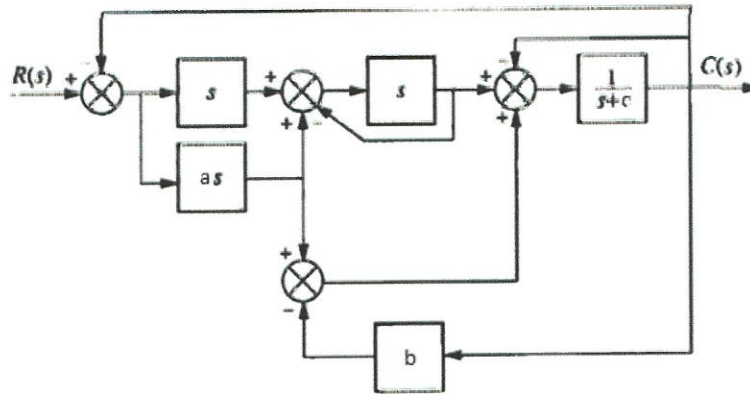

Figure Q2(b)
- (b) A system is presented as in block diagram as shown in **Figure Q2(b)**. Use,